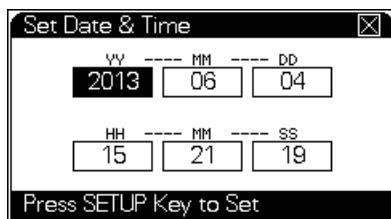

Figure 17 The Set Date & Time screen
- b The **Set Date & Time** screen opens. This screen displays the current year, month, day, hour, minute, and second (see Figure 17). Press the arrow keys to highlight the proper cell, then press [Setup] to select it.